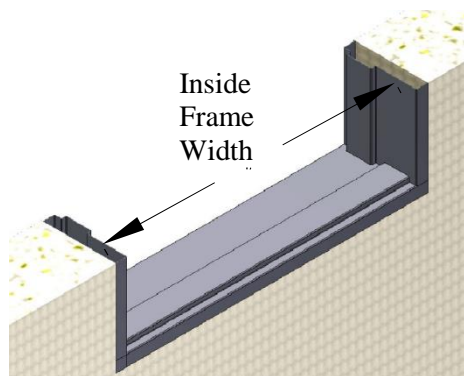
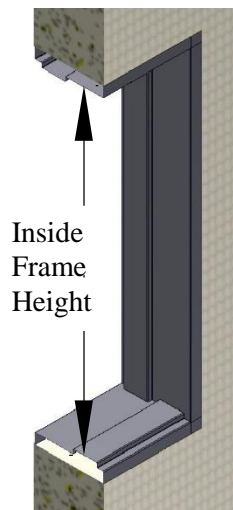

Figure 1: Check Frame Width
Figure 2: Check Frame Height
- Check steel window frame dimensions, and make sure the 'inside frame width' is 31" and the 'inside frame height' is 36-1/2" tall. To determine where to measure the frame, see Figure 1 and Figure 2.